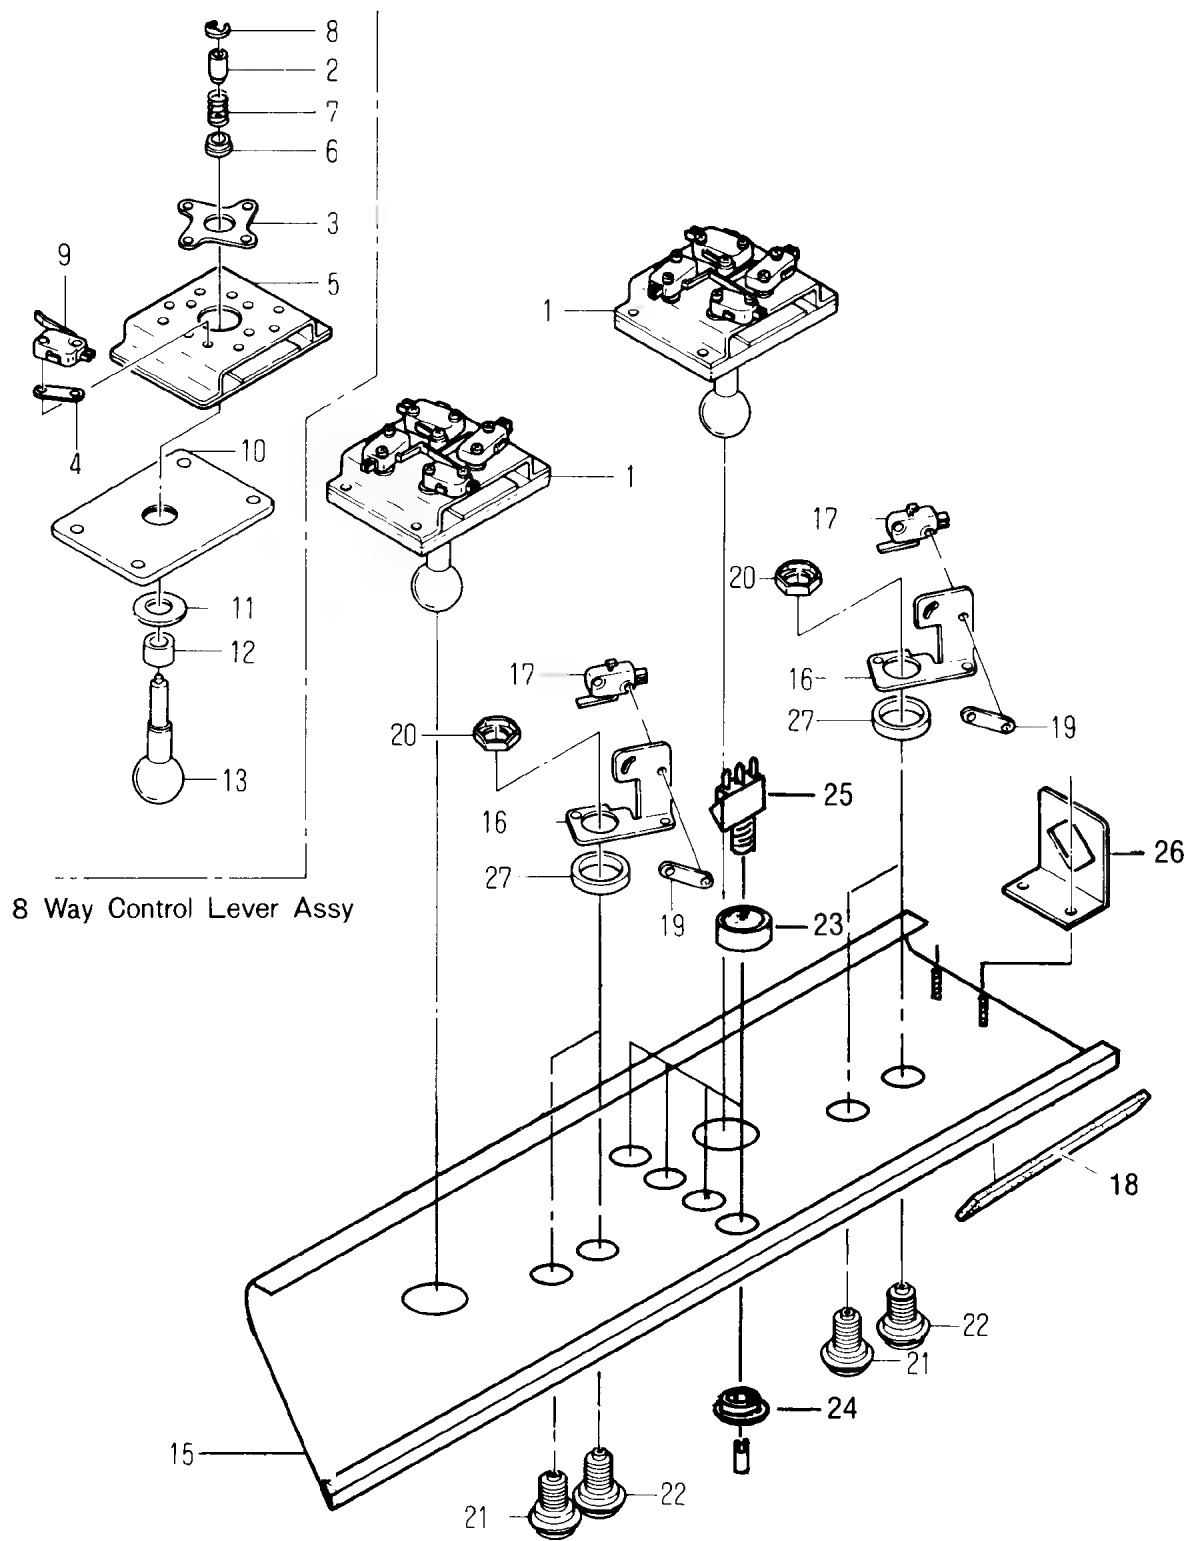

Fig. 11
B. Control Panel Assembly – See Figure 11